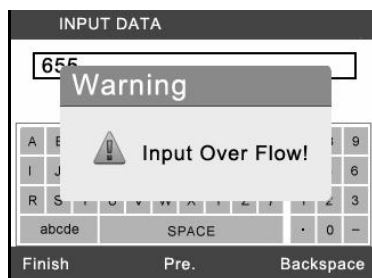

Figure 6.15
- ❏ **NOTE:** The data you input must be in the reasonable range, which is defined by the preset values in VIN. If you enter a data out of range, the tool will display a warning message.(Figure 6.15)